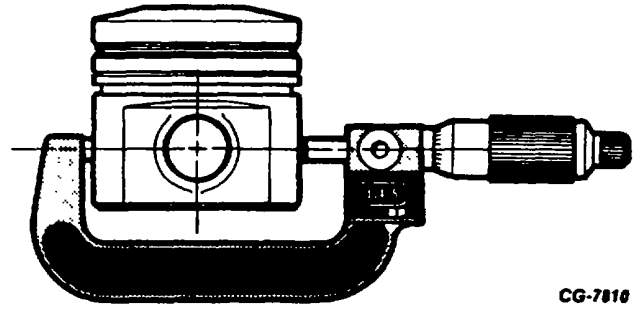

Figure 69.
7. After cylinder bores have been measured and recorded, select a piston to fit a certain bore. This is accomplished by measuring the piston skirt at 90° from the vertical center line of the piston pin bore along the horizontal center line of the piston pin bore. Figure 69. Piston size selected should be large enough to permit cleaning up cylinder bore and provide specified running clearance. See SPECIFICATIONS. Also, by making this check it can be determined if the engine has been rebuilt with oversize pistons. See SPECIFICATIONS.